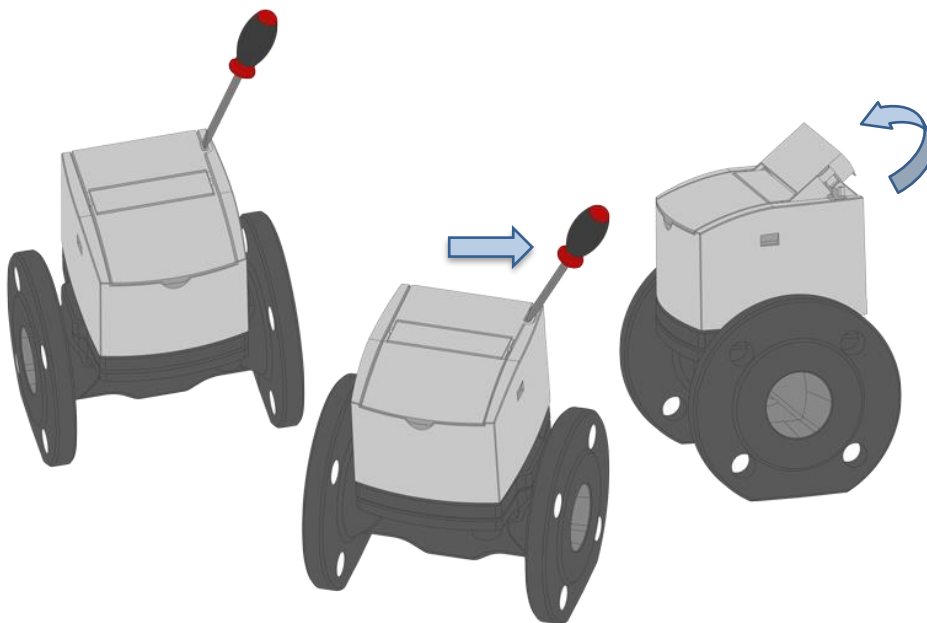

Figure 26: Breaking of communication seal and lifting of module lid
Step 1: Remove communication seal and open module lid, as shown in Figure 26.